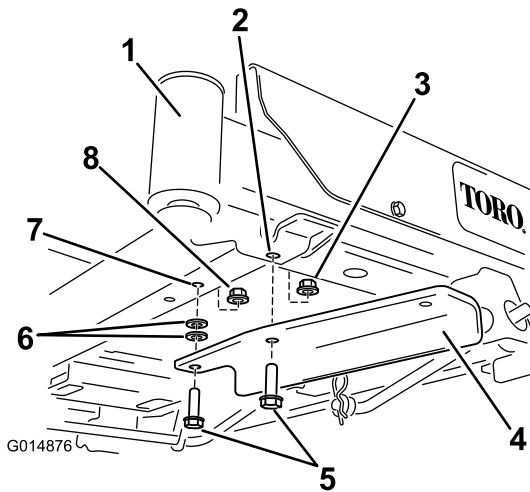

Figure 6
- For machines without a foot assist lift pedal, secure the bracket using 2 bolts (3/8 x 1-1/4 inches), 2 washers and 2 lock nuts (3/8 inch) (Figure 6).